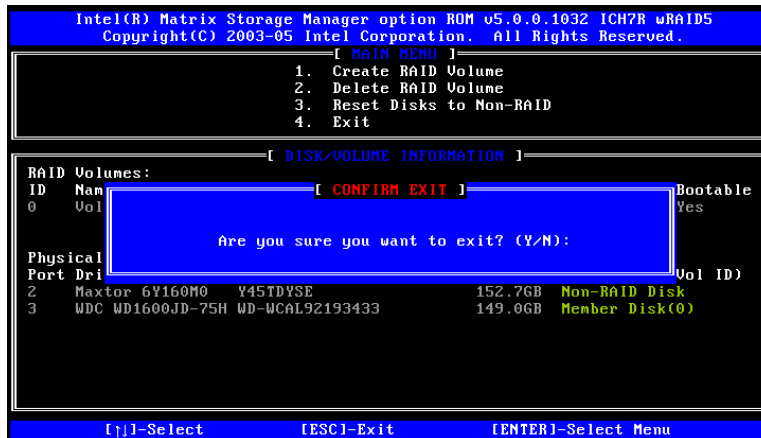

Figure G-17: Exit Verification
Step 2: Exit Verification. Press **Y** to exit the **Matrix Storage Manager**, or **N** to return to the **Main** menu. See **Figure G-17**.